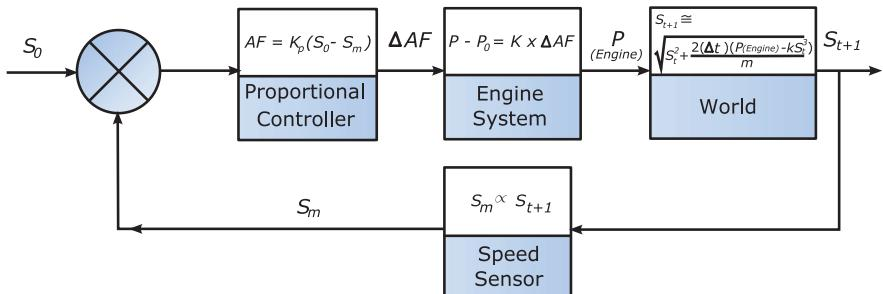

Figure 9
Since the variable  $\Delta AF$  is now the result of an *incremental* change, the engine block transfer function has to be modified accordingly, since it will receive just a small signal change. Let  $P_0$  be the power needed by a car traveling at constant speed. Then the power is given by  $P = P_0 + K \times \Delta AF$ . We write it as:  $\Delta P = P - P_0 = K \times \Delta AF$ . The complete closed loop block diagram is shown as Figure 9.
**Know:** The block diagram in Figure 9 has the complete series of blocks that describe this system.
**How:** Analyze Figure 9 by modeling the change in the air/fuel amount with  $K_p$  ( $D - S$ ) HP as the proportional control law.